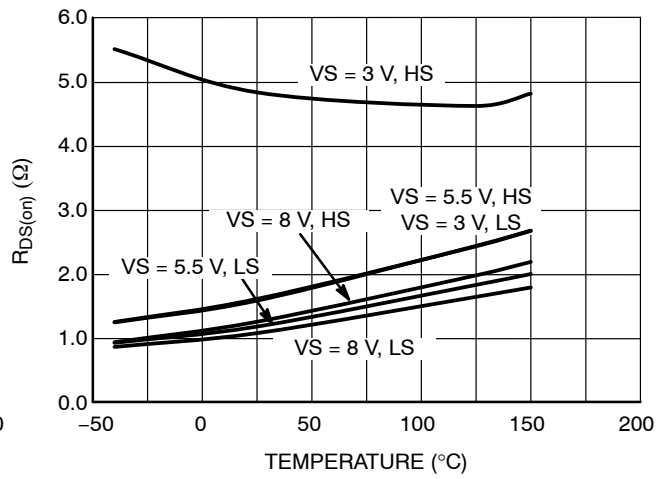

Figure 11. RDS(on) vs. Temperature
- Refer to Figures 11 and 14 for  $R_{DS(on)}$  behavior.